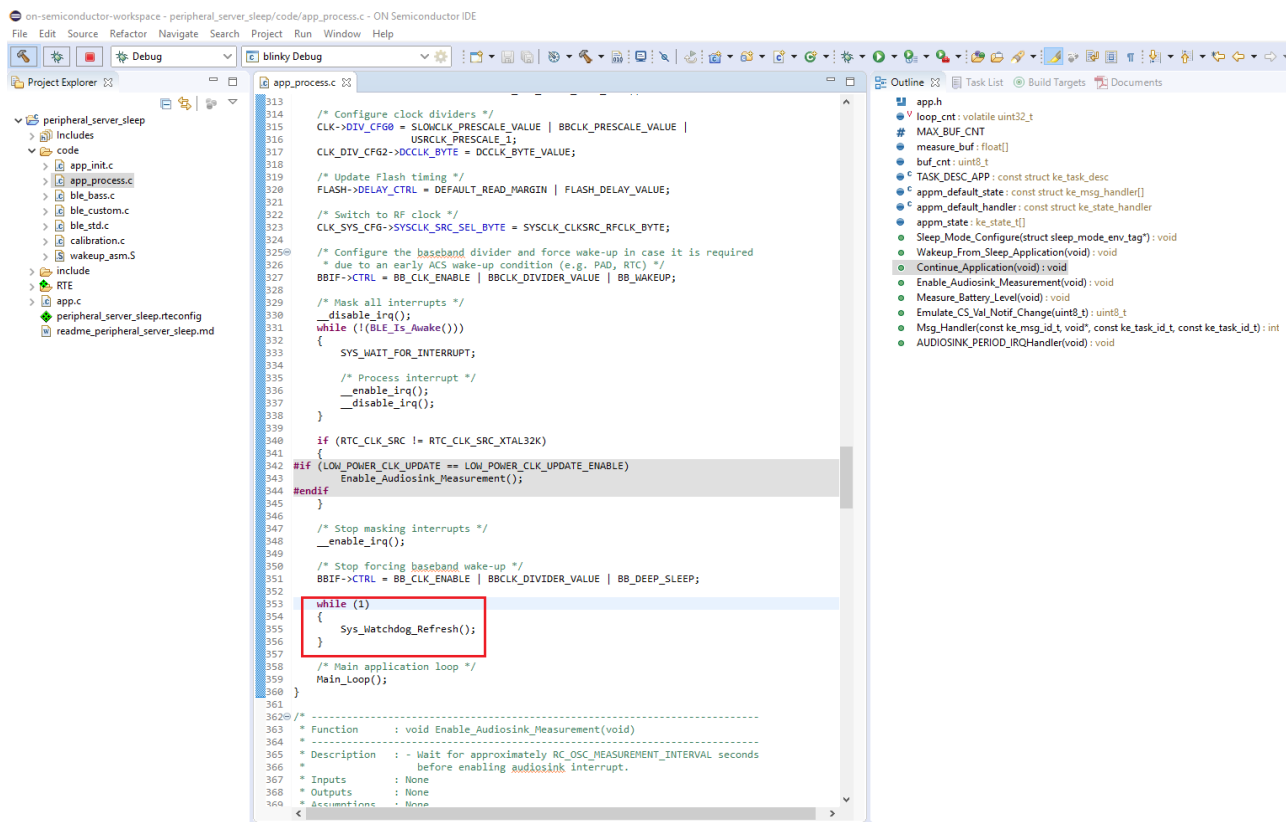

Figure 45. Continue_Application Function Perspective After Adding While Loop
2. Modify the function `void Continue_Application(void)` by adding a `while` loop before the `Main_Loop();` call, to make sure that the device stays awake in the infinite loop after waking up (see the figure "Continue_Application Function Perspective After Adding While Loop" \(Figure 45\)). Save and compile your application.